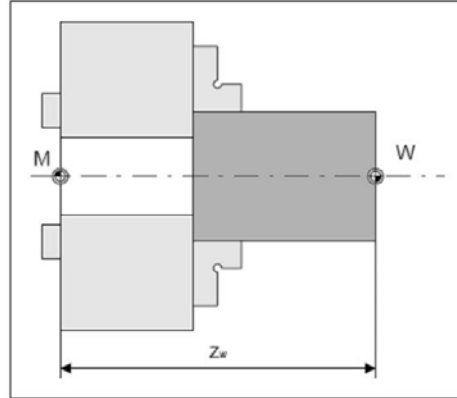

Fig. 1.6: Machine zero point and Workpiece zero point
Fig. 1.6 and 1.7 show (M) machine zero point for lathe machine and its symbol.
5.2 Workpiece Zero Point (W):
point is generally in the center of the left or right side of the completed part. Fig. 1.6 and 1.7 show (W) workpiece zero point and its symbol.